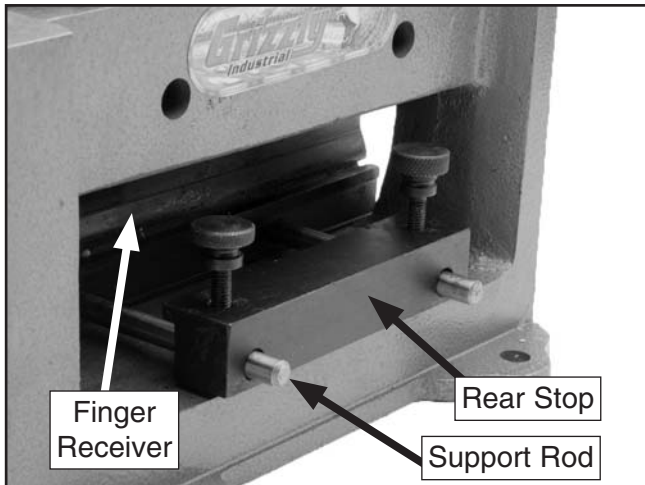
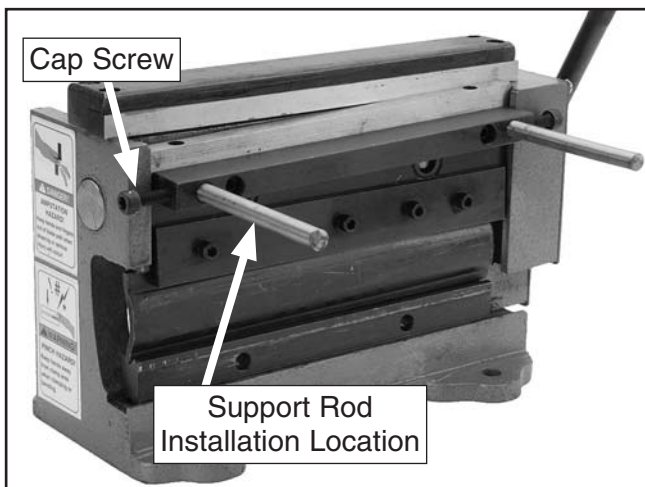

Figure 19. Rear adjustable stop.
Figure 20. Support rod installation location.
1. Remove the rear stop (**Figure 19**), so the workpiece can be supported in cutting operations.
2. Slide both support rods out from the finger receiver (**Figure 19**), and install the rods at the front of the machine just below the shearing knife (**Figure 20**).
3. Using the 5mm hex wrench, tighten the cap screws (**Figure 20**) to hold the rods in place.